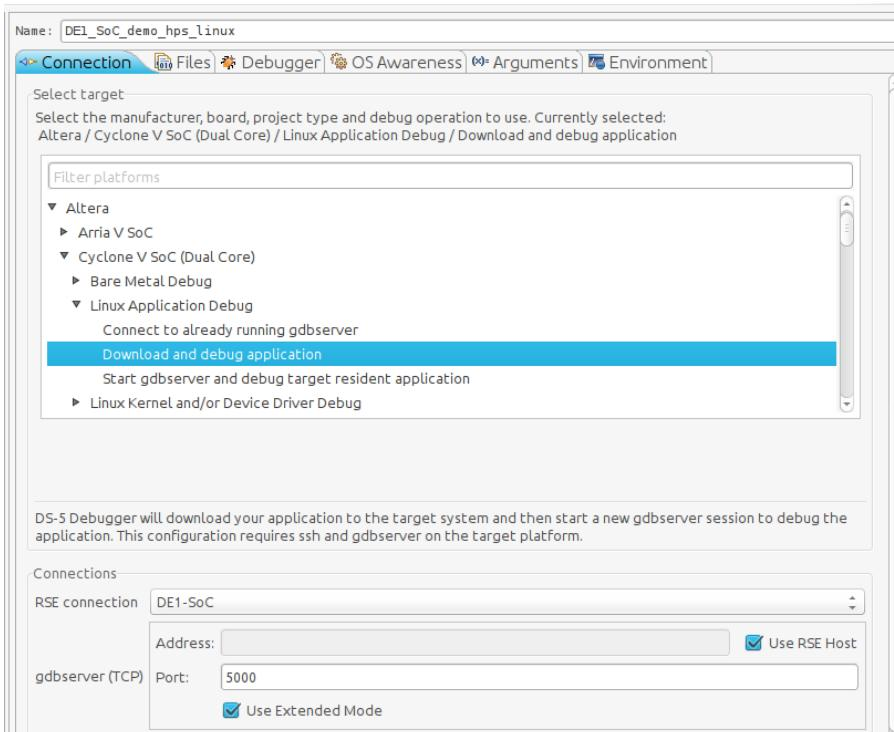

Figure 13-9. Debug Configuration “Connection” Tab
- b. Set the “RSE connection” to “DE1-SoC”. This is the remote system connection we created earlier. You should have something similar to Figure 13-9.